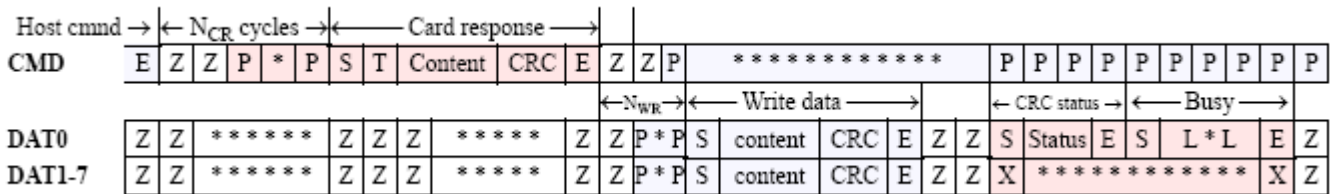

Figure 4-19 : Block Write Command Timing
The host selects the e-NAND for data write operation by CMD7. The host sets the valid block length for block oriented data transfer (a stream write mode is also available) by CMD16. The basic bus timing for a write operation is given in Figure 4-19. The sequence starts with a single block write command (CMD24) which determines (in the argument field) the start address. It is responded by the e-NAND on the CMD line as usual. The data transfer from the host starts NWR clock cycles after the e-NAND response was received. The data is suffixed with CRC check bits to allow the e-NAND to check it for transmission errors. The e-NAND sends back the CRC check result as a CRC status token on DAT0. In the case of transmission error, occurring on any of the active data lines, the e-NAND sends a negative CRC status (101) on DAT0. In the case of successful transmission, over all active data lines, the e-NAND sends a positive CRC status (010) on DAT0 and starts the data programming procedure